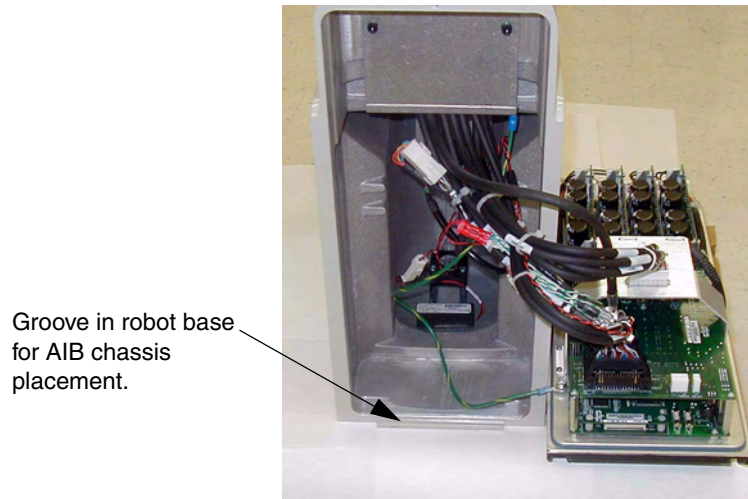

Figure 7-6. Installing AIB Chassis in Robot Base
8. Carefully insert the chassis into the robot base in the groove at the bottom of the base - see Figure 7-6. Tilt the chassis up and into place against the robot, making sure that none of the cables get trapped or pinched and that the chassis O-ring is not damaged during installation.